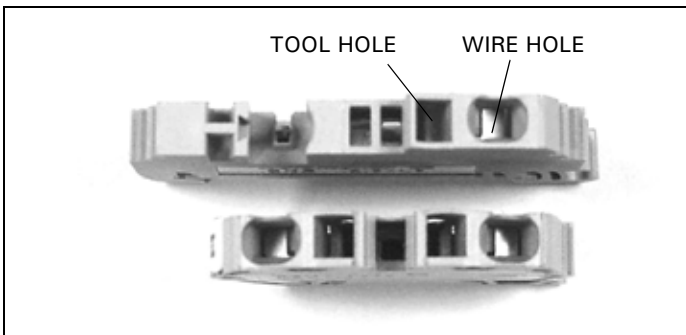

Figure 20. Tension Clamp Terminal Blocks.
Step 1: Figure 20 shows two tension clamp terminal blocks.